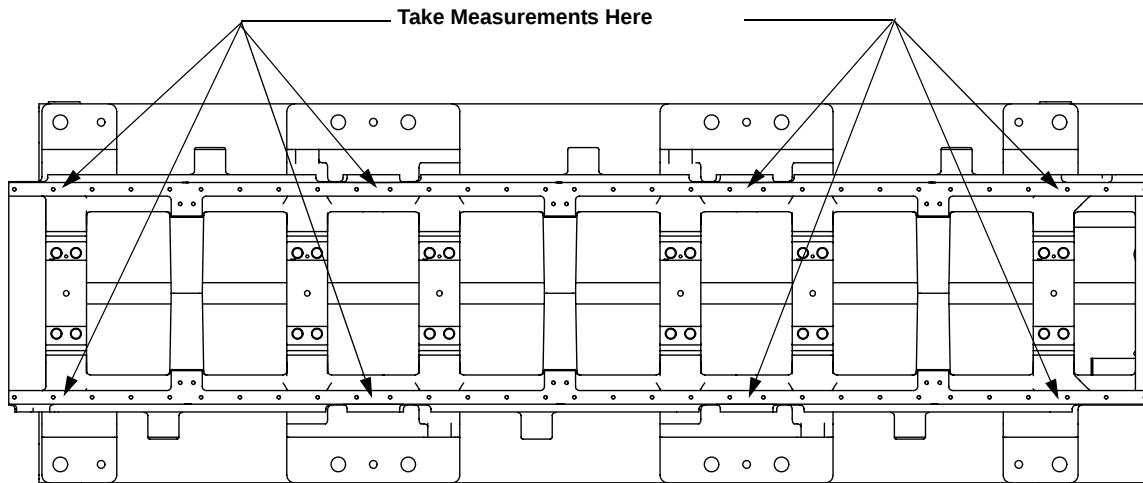

FIGURE 2-1 FLATNESS CHECK LOCATIONS - TYPICAL
4. Measurements for flatness are to be taken on the top surface of both sides of the frame rails at each anchor bolt or for frames with pairs of anchor bolts between each pair of anchor bolts, with top covers and gaskets removed (see Figure 2-1). Readings between any two adjacent points are to be within .002 in. (0.05 mm). The total accumulated out of plane flatness for proper alignment is to be within the flatness tolerances listed in Table 2-1.